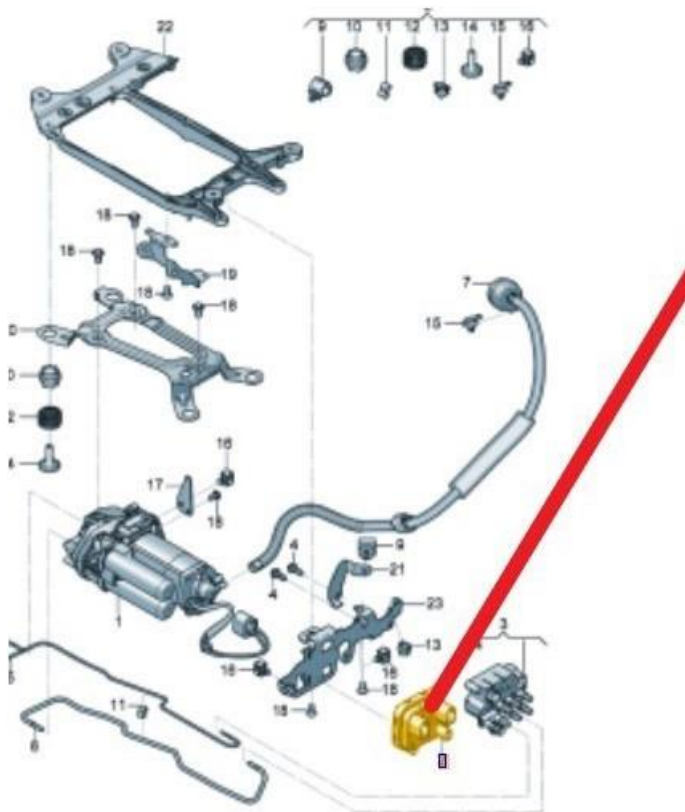

Figure 3
- Referring to Rep.Gr43 (Air suspension compressor to remove and fit) - Replace the compressor control unit (Figure 3)